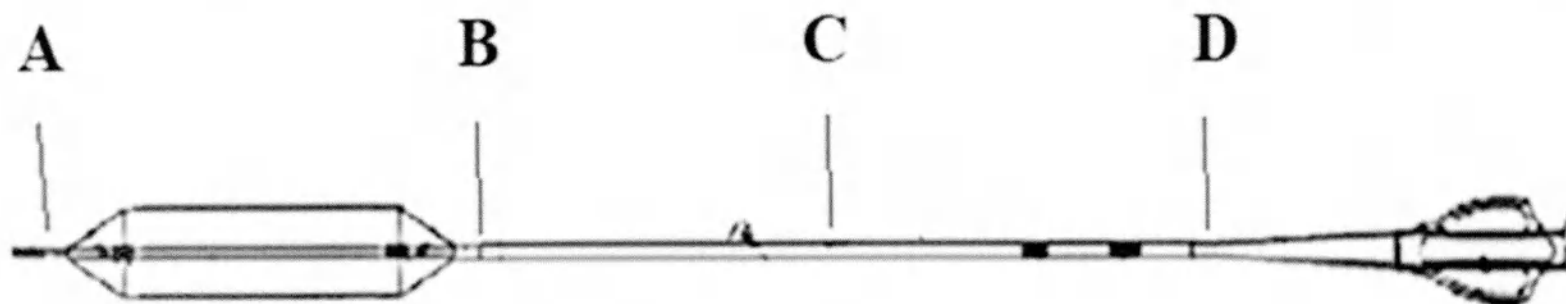

Figure 3. Connection points of the catheter parts
** Connection points of the catheter parts are shown in Figure 3